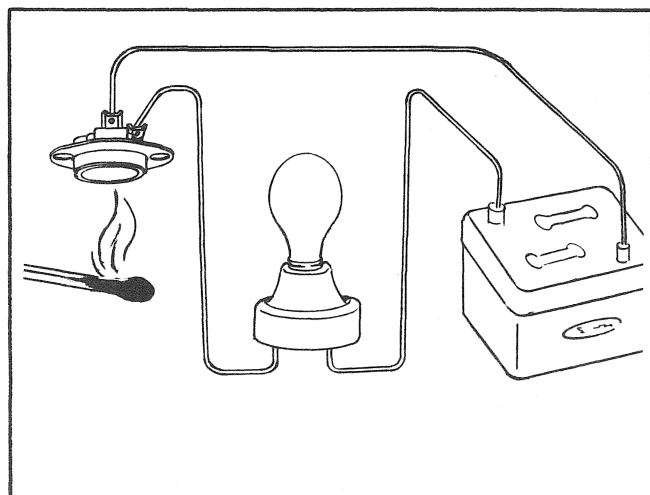

Figure 19. Continuity Test for Thermal Switch
- (18) Thoroughly wash all metal parts.
(19) Carefully inspect parts for cracks, breaks, or chipping. Inspect mating surfaces for scratches, cracks, or marks that might allow leaking. Inspect air-tube and air hoses, and hose fittings for deterioration or cracks, or any condition that might allow air leaks. Inspect the end cap.
(20) Remove the thermal protector switch, if so equipped. This is a 'normally-open' SPST thermally actuated, low-voltage, low-current switch. Hook up a continuity testing circuit similar to that shown below in Fig. 19. The test light leads on your armature-growler may be used for this test. With a cigarette lighter or match, gently heat the dark, circular thermal spring as pictured. The test light should remain 'off' until the applied heat causes the switch to 'click' on. At this time, the test light will come on, and